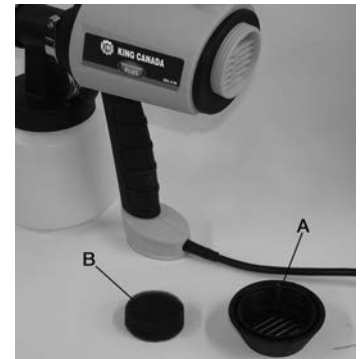

Figure 6
You should inspect the air filter (A) Fig.6 at the back regularly to see if it is excessively dirty. If it is dirty, clean it as follows.
- 2) Unscrew the filter cover (B) Fig.6.
- 3) Remove and check the filter (A) for dirt. If the filter is dirty, rinse in clean water and leave to air dry.